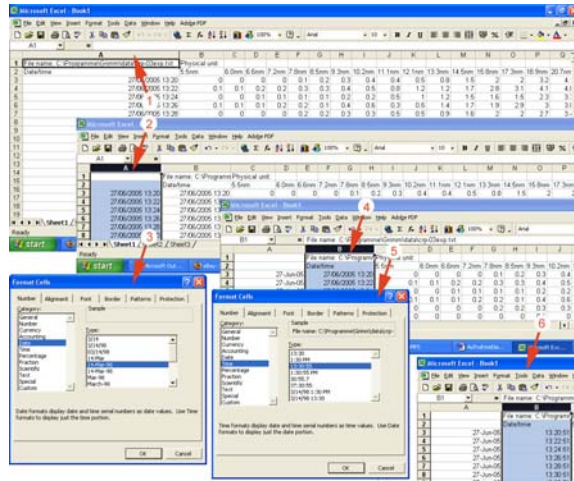

Fig.14: Final touches of the imported SMPS file
- Right-click “Column A” of imported file and insert an extra row (step 1 in figure 14);
- Copy-paste content of “Row B” into “Row A” (step 2 in figure 14);
- Right-click “Row A” and set to standard date format (step 3 in figure 14);
- Right-click “Row B” and set to standard time format (step 4 & 5 in figure 14);
- Result should look like step 6 in figure 14;